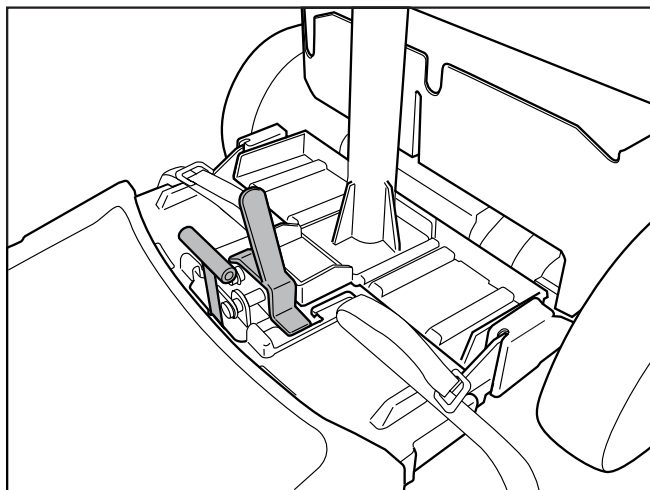

Fig. 20
- 8.** Locate the Red "T" Handle and Latch on frame assembly. (Fig. 20)